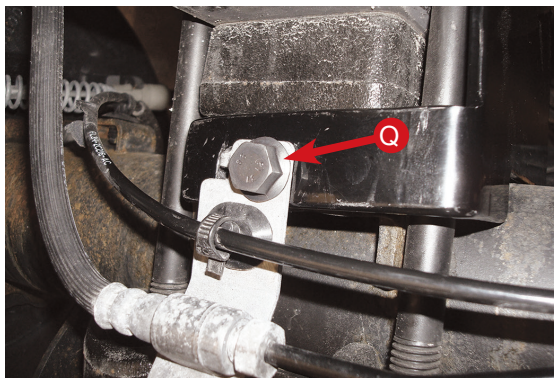

fig. 11
7. Index the brake line/ABS bracket alignment tabs through the lower bracket on the back of the spring perch, and reattach using the M8 flange bolt (Q) provided (Fig. 11). Also, attach the emergency brake line bracket on the front of the passenger's (right) side spring perch in the same manner. Finish by installing the 5/16" bolt previously used to tap the forward spring perch hole, and LEAVE ALL HARDWARE LOOSE AT THIS TIME.